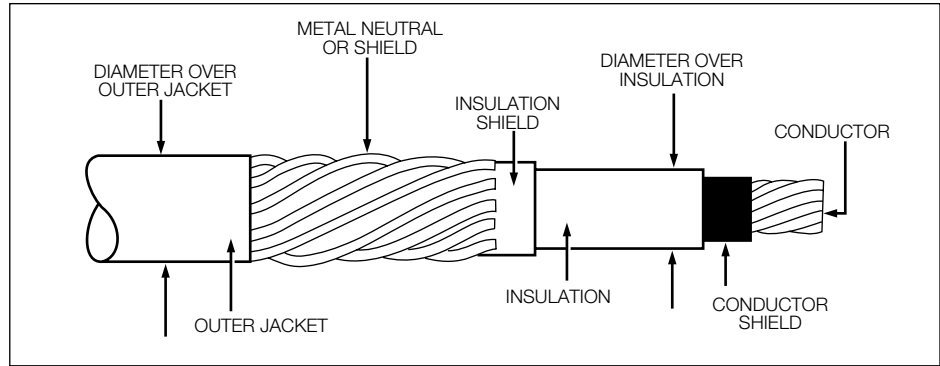

Figure 4.
STEP 1: Determine the cable's diameter over the electrical insulation as shown in Figure 4 (including tolerances) from cable manufacturer. Then identify a cable range from Table 2 that brackets the minimum and maximum insulation diameters. Select the CABLE RANGE CODE from the far right column.